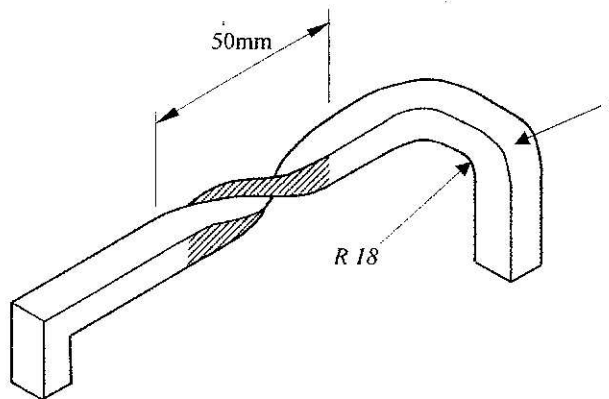

Figure 4
- (b) Figure 4 shows a portion of an arm bar made from a 6.0 mm square mild steel rod.